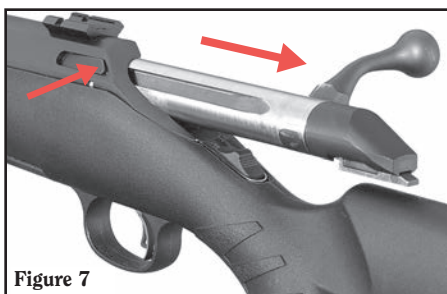

Figure 7
3. **To remove the bolt:** Open bolt and pull to the rear while at the same time pressing on the rear of the bolt stop, which is located on the left side of the receiver on the right-handed version and the right side of the receiver on the left-handed version (see Figure 7). This is as far as you need to dismantle the rifle for a routine cleaning. It is rarely necessary to proceed further.